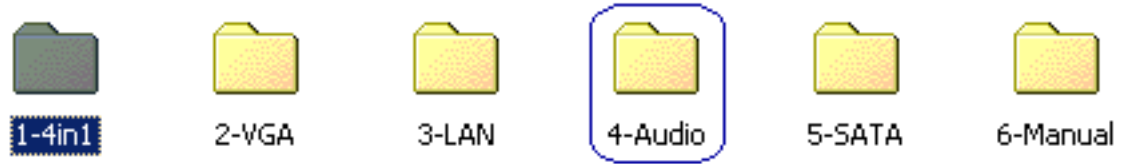

Figure 6-10: Access the Audio Driver Folder
Step 2: Open the **“PCISA-MARK”** folder. Open the **“Audio”** subfolder. (See **Figure 6-10**)